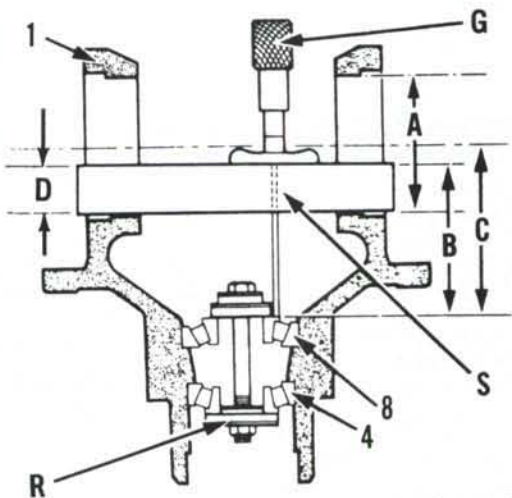

**Fig. 19—Measure backlash between ring gear and bevel pinion gear using a dial indicator.**
When installing the differential and ring gear assembly, it is necessary to check and adjust both backlash and carrier bearing preload as follows: First measure rotating drag of bevel pinion shaft (10) using a spring scale with a string wrapped around the pinion shaft as shown in Fig. 18. Do not measure starting torque (force necessary to start pinion shaft turning), only measure the force necessary to keep pinion turning. Record the rotating drag measurement for later use, then install differential assembly in carrier housing and tighten bearing cap (C—Fig. 16) bolts tight enough to hold caps in place but allow adjuster rings (14) to be rotated. Turn adjuster rings to remove all free play between ring gear and bevel pinion gear. Preload of differential carrier bearings and gear backlash are both adjusted by turning adjusting rings (14L and 14R). Backlash between bevel pinion and ring gear should 0.18-0.25 mm (0.007-0.010 in.) and can be measured at face of ring gear with a dial indicator (D—Fig. 19). Turn adjuster rings (14) by equal amounts to move ring gear (11) away from pinion gear until desired backlash is obtained. Adjuster rings (14L and 14R—Fig. 17) should be tight and differential should rotate freely in carrier bearings (15) when checking backlash. Carrier bearing preload is correct when 3.2-4.7 Kg. (7-10 lbs.) more rotational force is necessary to turn the pinion shaft than was necessary to turn only the pinion shaft when previously measured. Turn adjuster ring (14L) opposite ring gear to increase or decrease bearing preload. It is important to check both rotational drag (as shown in Fig. 18) and bevel pinion to ring gear backlash (Fig. 19) after changing the position of either adjusting ring (14L or 14R—Fig. 17).